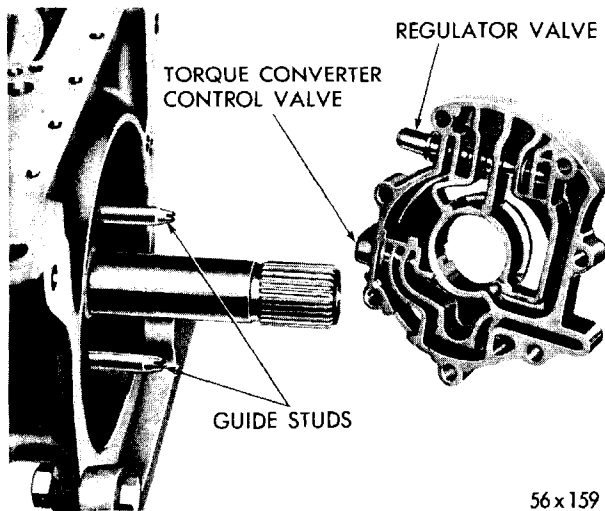

Fig. 36—Installing Regulator Valve Body
(1) Place the transmission regulator valve and torque converter control valve in the regulator valve body. (Refer to Figure 36).
(2) Install guide studs, Tool C-3288 (if removed) in front of transmission case, position new regulator valve body gasket and valve body assembly (with oil passages to rear) over torque converter reaction shaft. Seat firmly against gasket on front of transmission case. Use extreme care when placing regulator body in position to prevent reaction shaft screws from damaging passages in regulator body.